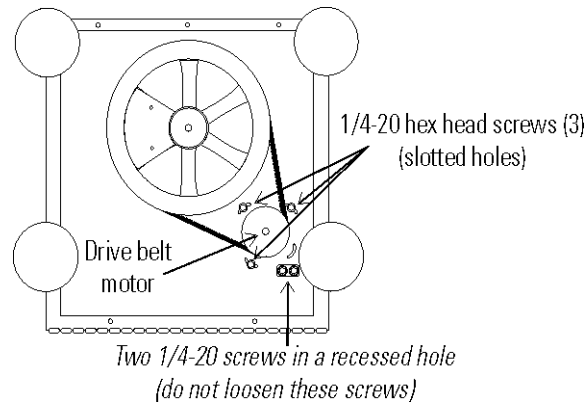

Figure 4-1. Loosen Three Screws
- Loosen, but do not remove, the three 1/4-20 screws located in the slotted holes adjacent to the shaker drive motor. Refer to Figure 4-1. Internal springs will automatically apply the proper tension against the drive belt.